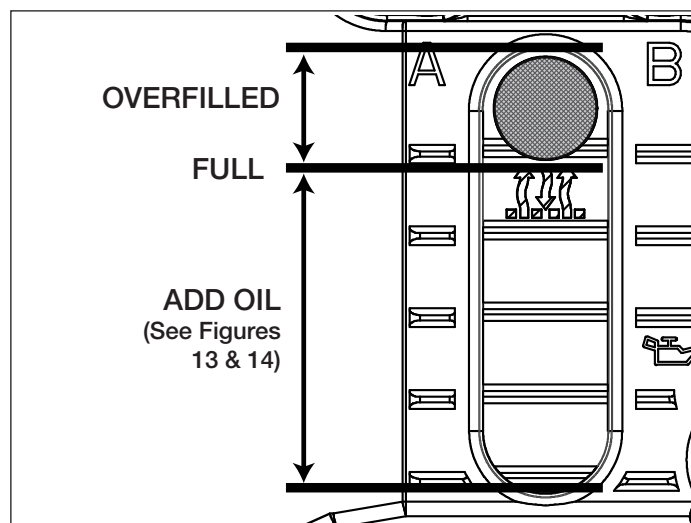

Figure 12, Oil Level Indicator
4. Check the oil level indicator. Verify that the oil level is up to the full mark. Refer to Figure 12.
11. Check the oil level indicator. Verify that the oil level is up to the FULL mark and that the reservoir is not overfilled. Refer to Figure 12.